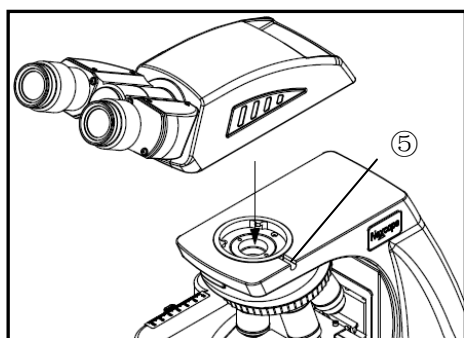

Fig.29
① is connected to the mouse; ② is the power socket, connected to the power supply; ③ is the HDMI interface, the other end can be connected to the computer or mobile phone with Touchscope Pro software; ④ is connected to the network cable.
5.2 Installing (Fig.29)
Mount the digital viewing head according to the assembly path in Fig.29 into the round dovetail of the microscope and tighten the screw⑤ to fix the viewing head.